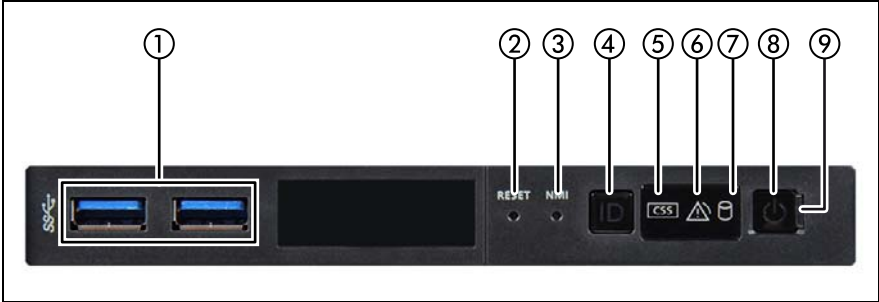

Figure 7: Front panel
Two additional USB connectors (2x USB 3.0) are located on the front of the server (see figure 7 on page 64).
The power-on indicator (item 11 in figure 7 on page 64) lights up orange (standby mode) when the server is connected to the mains.
- ▶ Press the On/Off button (see item 12 in figure 7 on page 64).